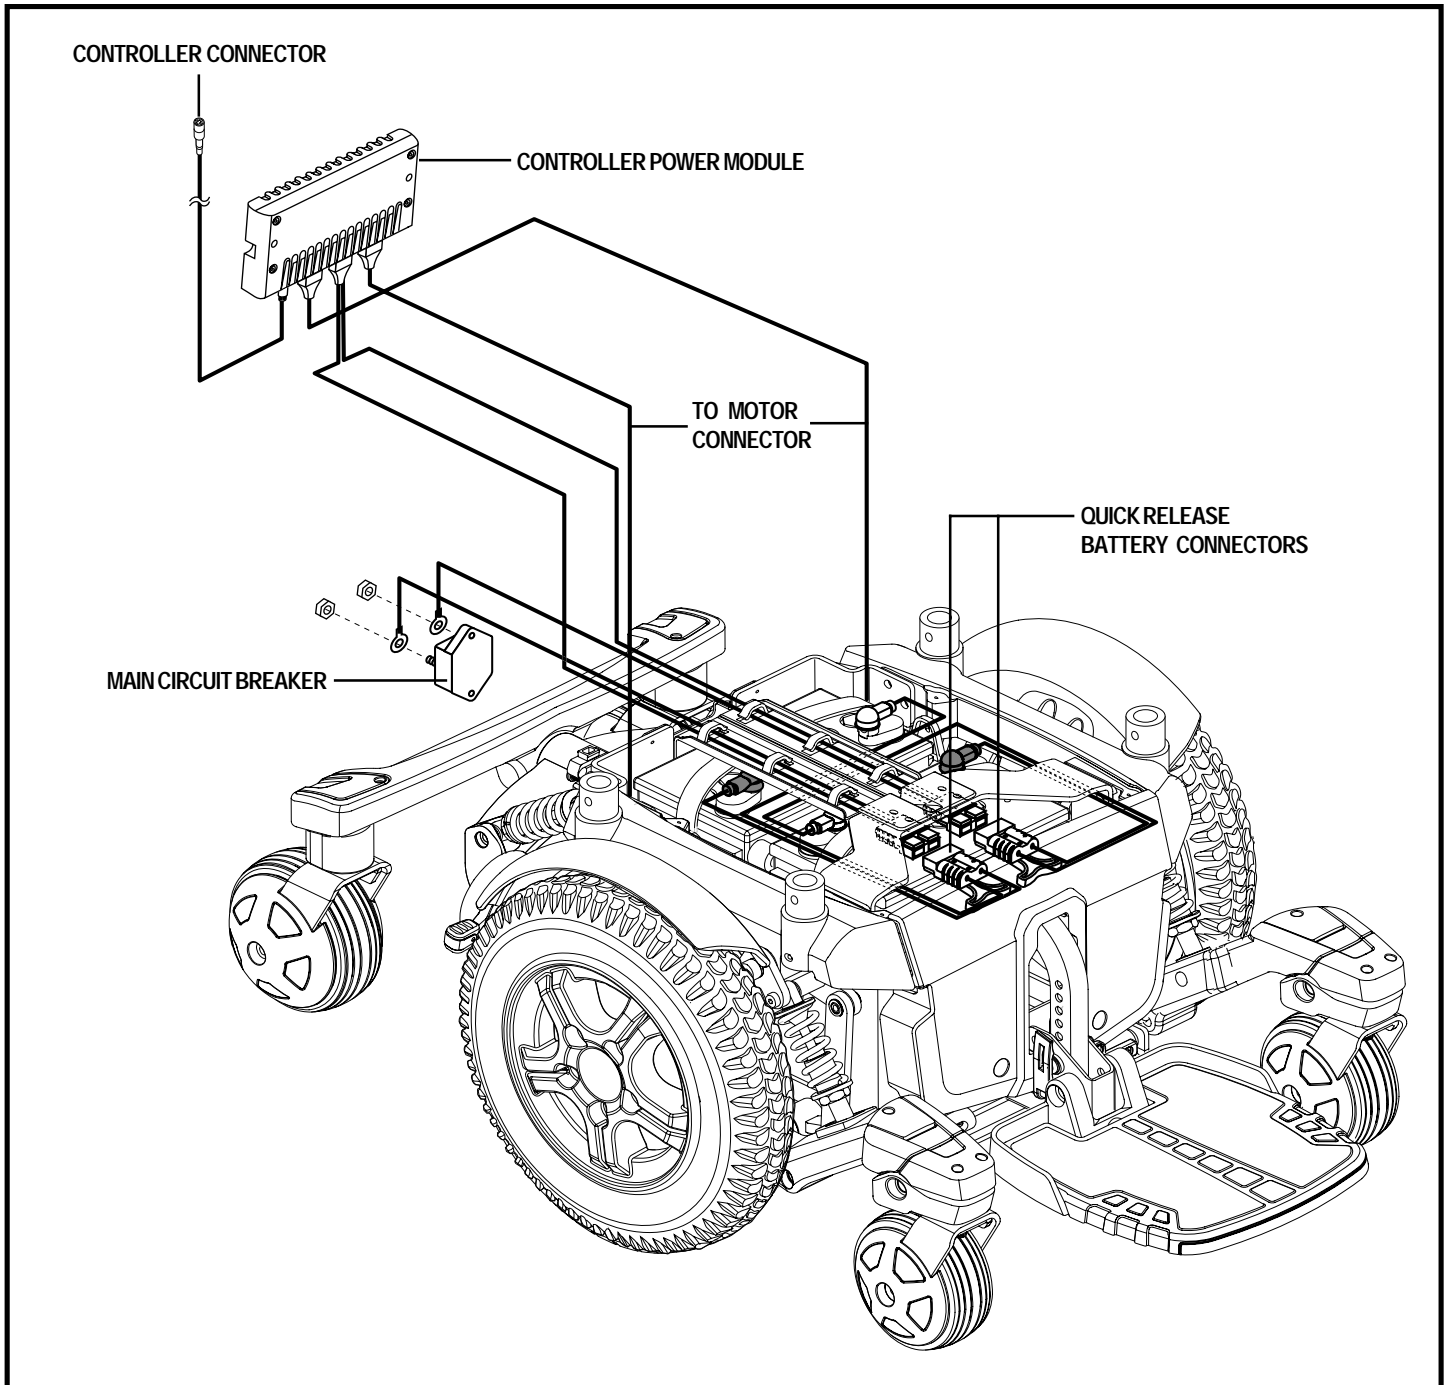

Figure 7. Quantum 6000 Series Electrical Components
The electrical components consist of the controller assembly, the batteries and the motors. The batteries, motors and controller power module (if equipped) are located on the power base assembly. The controller is located on the seat assembly. Connectivity between the controller and the motors, batteries and the battery charger is provided by one or more wiring harnesses. See figure 7.
6. Plug the controller connector into the power base. See figure 7.
4. Disconnect the controller connector(s) from the power base. See figure 7.